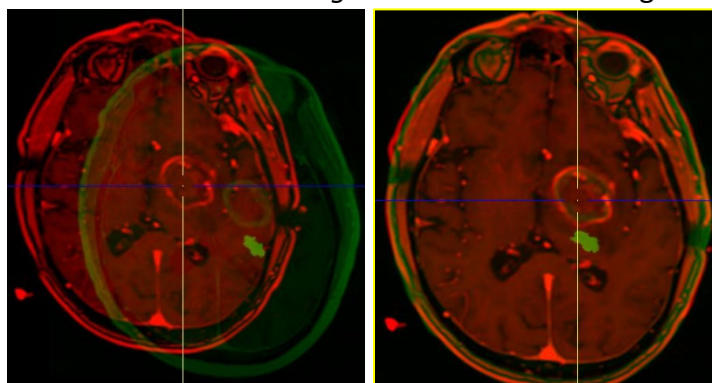

Figure 8.1.23: Image Co-Registration in Registration Task
- Click a thumbnail view to the right side of the image view panes for the desired image dataset to be registered (highlighted green in Figure 8.1.23)